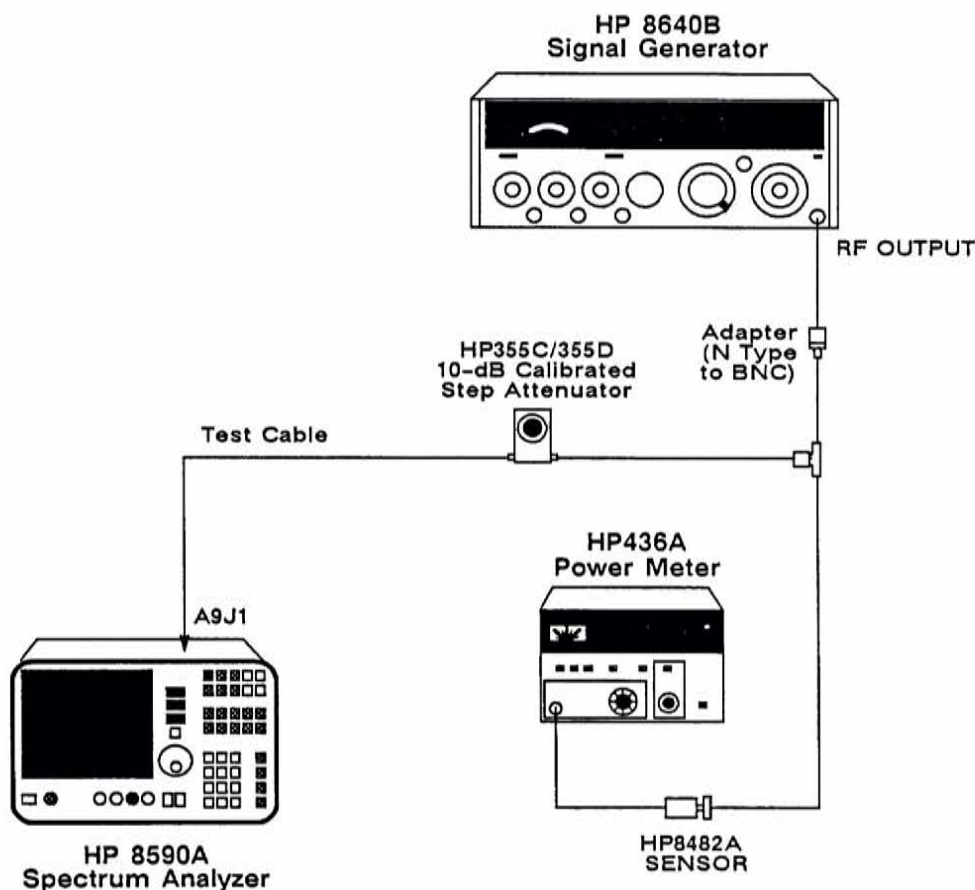

Figure 2-5. Step Amplifier Gain Adjustment Test Setup
2. Connect the equipment as shown in Figure 2-5. Set the signal generator to output a 321.3-MHz, -14 dBm, CW signal. Connect the signal generator to one side of a 10-dB step attenuator.